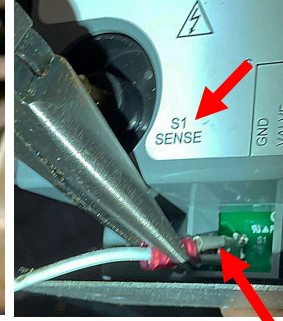
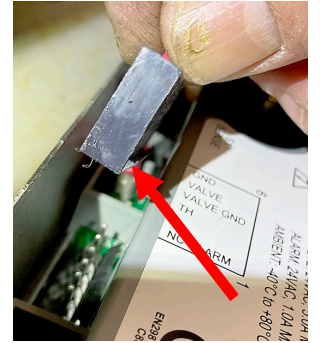

Figure 76
Figure 77
- 76. Attach the white sense wire to the S1 Sense location on the modules first (see Figure 76). The black connector attaches with the groove towards the module (see Figure 77)